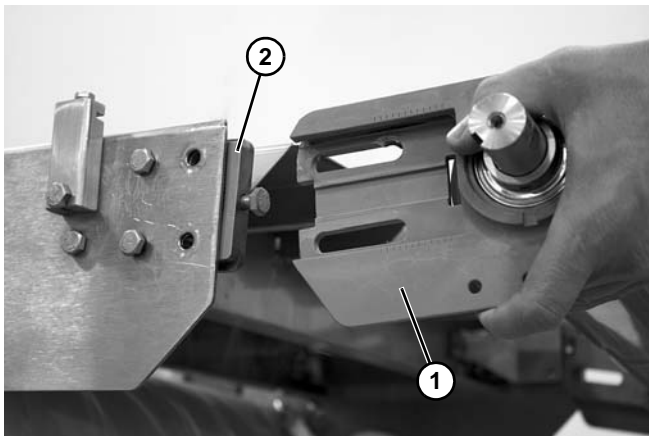

Figure 72
4. Slide the drive spindle assembly (**Figure 72, item 1**) off the drive tail blocks (**Figure 72, item 2**).